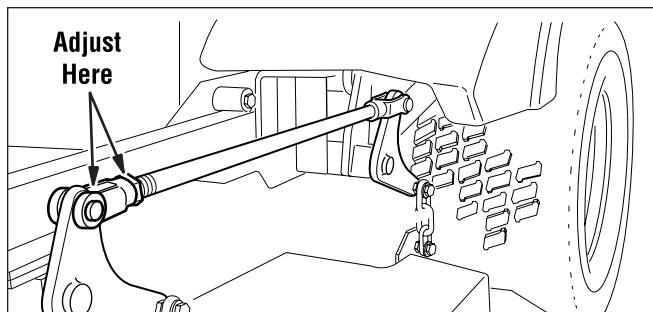

Figure 37. Adjust Lift Rod Timing
- See Figure 37. To adjust the lift rod, loosen the jam nut on the front clevis then remove the 1/2" clevis pin fastening the clevis to the lift pivot arm. Turn the clevis clockwise to shorten the distance between the rod pivots or counterclockwise to lengthen the distance between the rod pivots. Reinstall the clevis on the lift pivot arm and secure with the 1/2" clevis pin previously removed. Tighten the jam nut against the clevis.